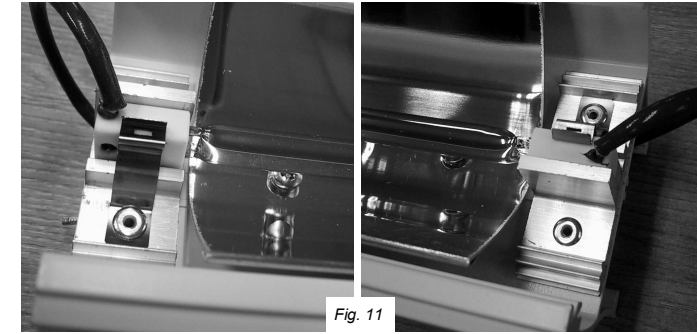

Fig. 11
11. Take your new emitter and refit by ensuring the leads are facing upwards and away from the emitter holders. The emitter can be clipped in by pulling the tabs back (Fig. 11). Please read the note about handling the emitter on page 7 before continuing.